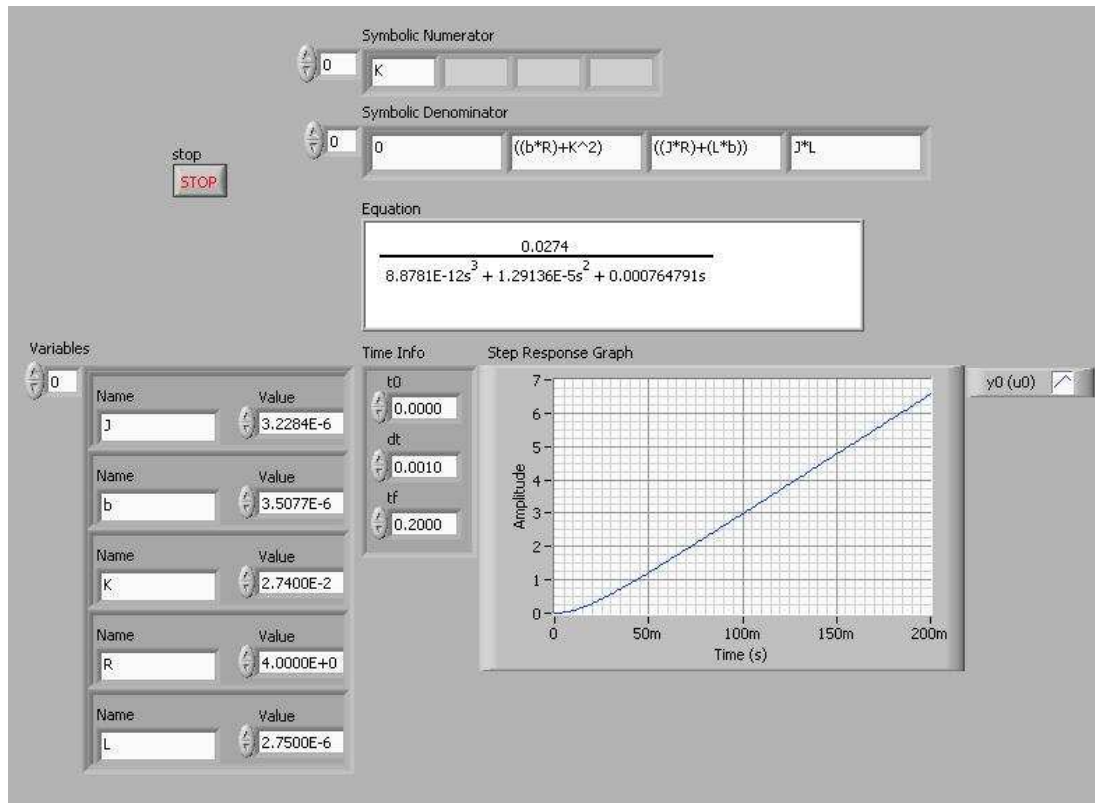

Figure 3:
- In the “Symbolic Numerator” control, enter the numerator K and in the “Symbolic Denominator” control enter the denominator of the transfer function $= [(J * L) \quad ((J * R) + (L * b)) \quad ((b * R) + K^2) \quad 0]$ as shown in Figure 3.